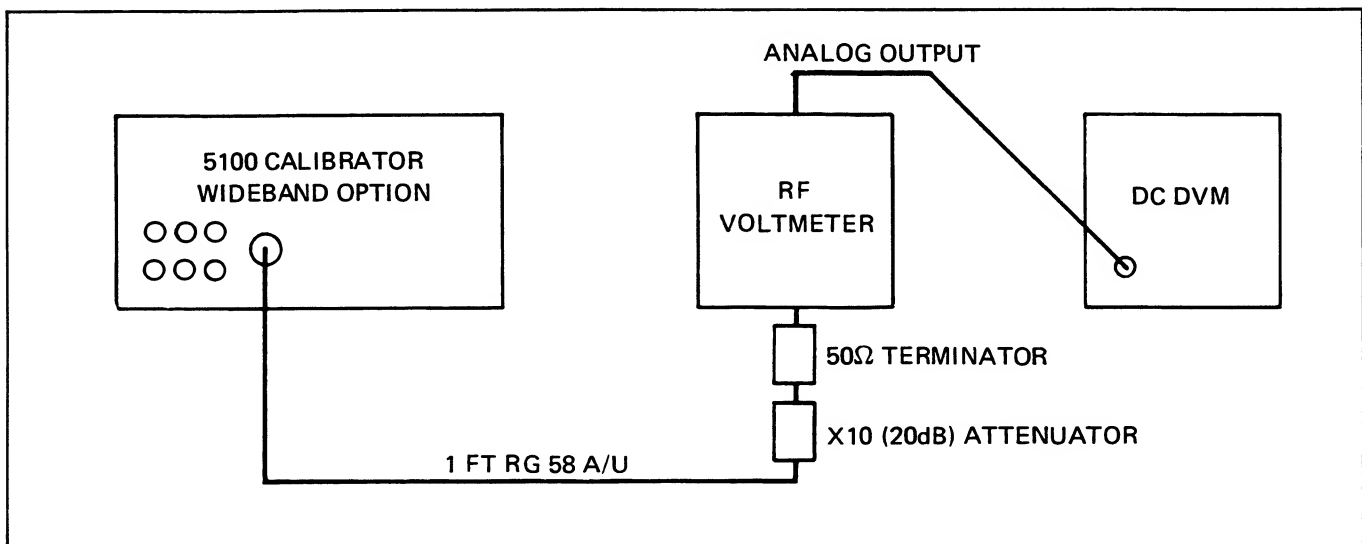

Figure 603-6. Wideband Medium and High Frequency Flatness Tests
1. Connect the equipment as shown in Figure 603-6.
1. Connect the test equipment as shown in Figure 603-6.